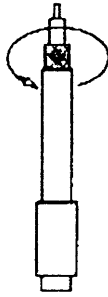

Figure 2
2) Gripping jacket of cable close to frayed end gently twist delicate to slightly spread the braid, see figure 2.